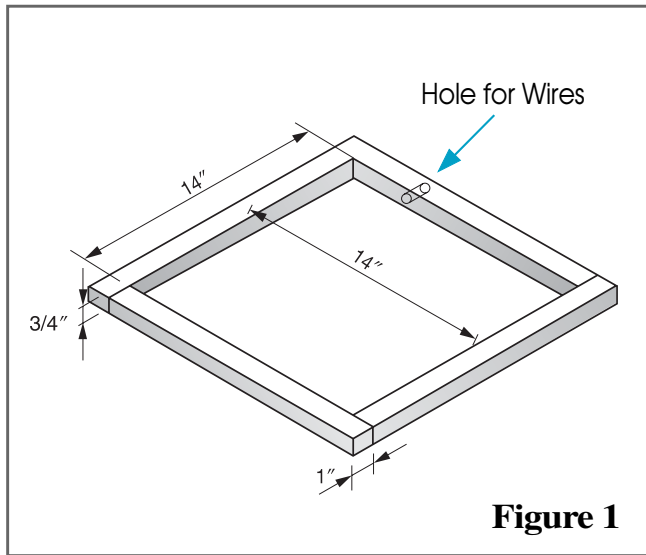

Figure 1
- 3** Examine the roof opening size. If the opening is smaller than 14" x 14", the opening must be enlarged. If the opening exceeds 14" x 14", a mounting plate (frame) must be fabricated to reduce the opening size (See Figure 1).
If a roof vent opening is not used, a new opening (See Figure 1) will have to be cut into the vehicle roof. A matching opening will also have to be cut into the interior vehicle ceiling. Be careful when cutting the ceiling opening because if the ceiling opening is carpeted, snagging could occur. After the opening in the roof and interior ceiling are the correct size, a framed support structure must be placed between the exterior roof top and interior ceiling. The reinforced framed structure must follow the following guidelines:
We recommend that the spacing between the vehicle roof top and the interior ceiling top be no less than 3/4". A typical support frame is shown in Figure 1.